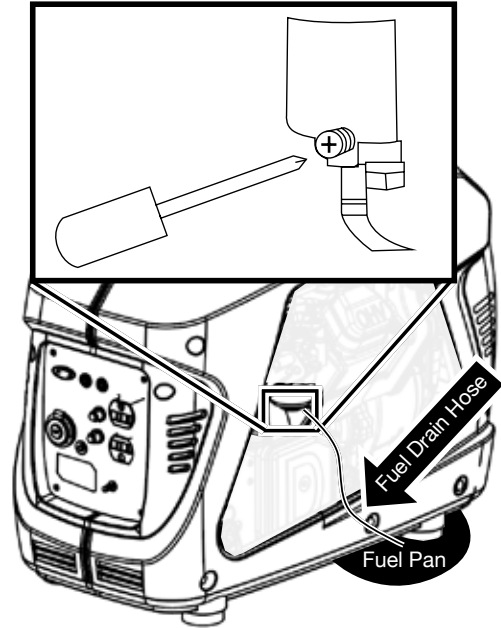

Figure 16: Locate Fuel Drain Screw and Fuel Drain Hose
2. Locate the clear plastic hose from the float that is exiting out the bottom of the inverter, and place a suitable container under it to catch the drained fuel (see Figure 16).
3. Loosen the float bowl drain screw (see Figure 16) until fuel is seen draining from the float bowl.